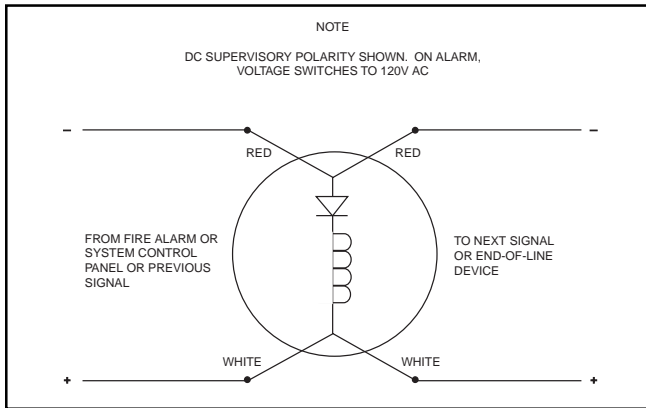
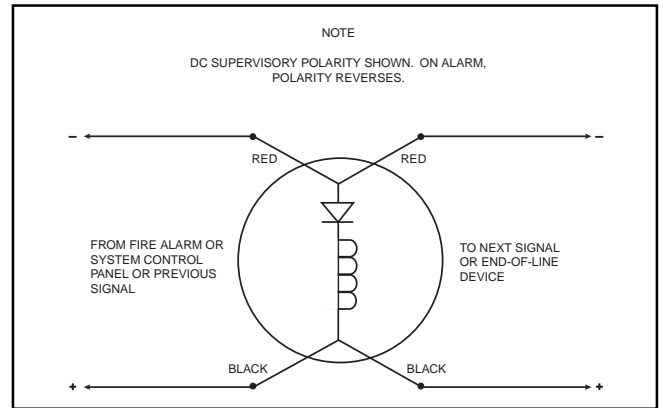
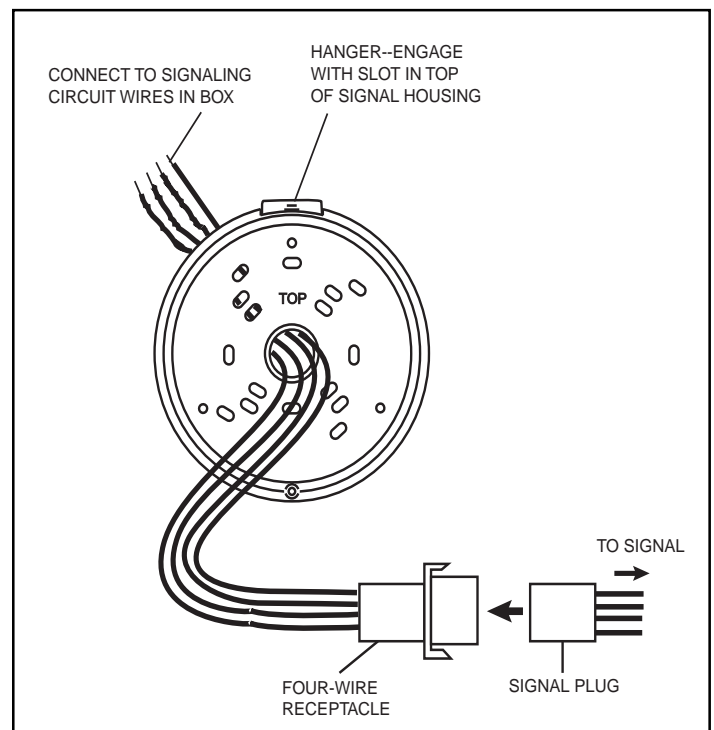

Figure 3. Wiring Diagram for Cat. No. 5520D-N5 Signal
Figure 4. Wiring Diagram for Cat. No. 5520D-AW Signal
Figure 5. Mounting Plate Details
- Disconnect the four-wire receptacle, shown in Figure 5, from the signal plug. Connect the leads from the receptacle to the signal circuit wires as shown in Figure 3 for the Cat. No. 5520D-N5 signal or Figure 4 for the 5520D-AW signal. Polarity must be observed.
5. Bring the four-wire receptacle through the center hole of the mounting plate as shown in Figure 5. Align appropriate holes in plate with mounting screw holes in electrical box or with holes in bosses of Cat. No. 349 weatherproof box. Note that "TOP" on mounting plate indicates required position for installation. Fasten plate to applicable type of box as follows:
6. Connect the signal plug with the receptacle and push through mounting plate into box. Then hook signal on mounting plate by engaging hanger on plate, shown in Figure 5, into slot in top of signal housing. Tighten screw, loosened in step 3, to secure signal to plate.